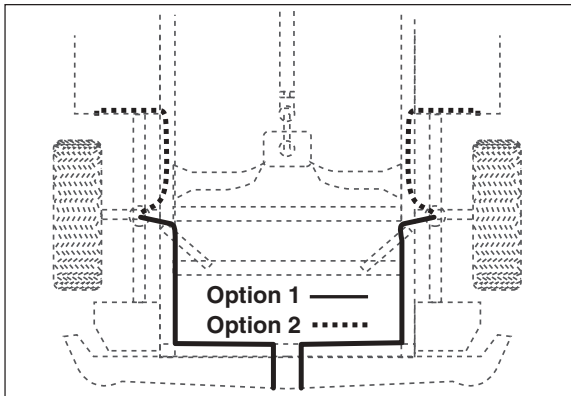

Figure 8
1. Select a location on the vehicle for the air inflation valves (Figure 8). The location can be on the bumper or on the body of the vehicle, but be sure that it is protected so that the valve will not be damaged and will still be accessible for the air chuck.